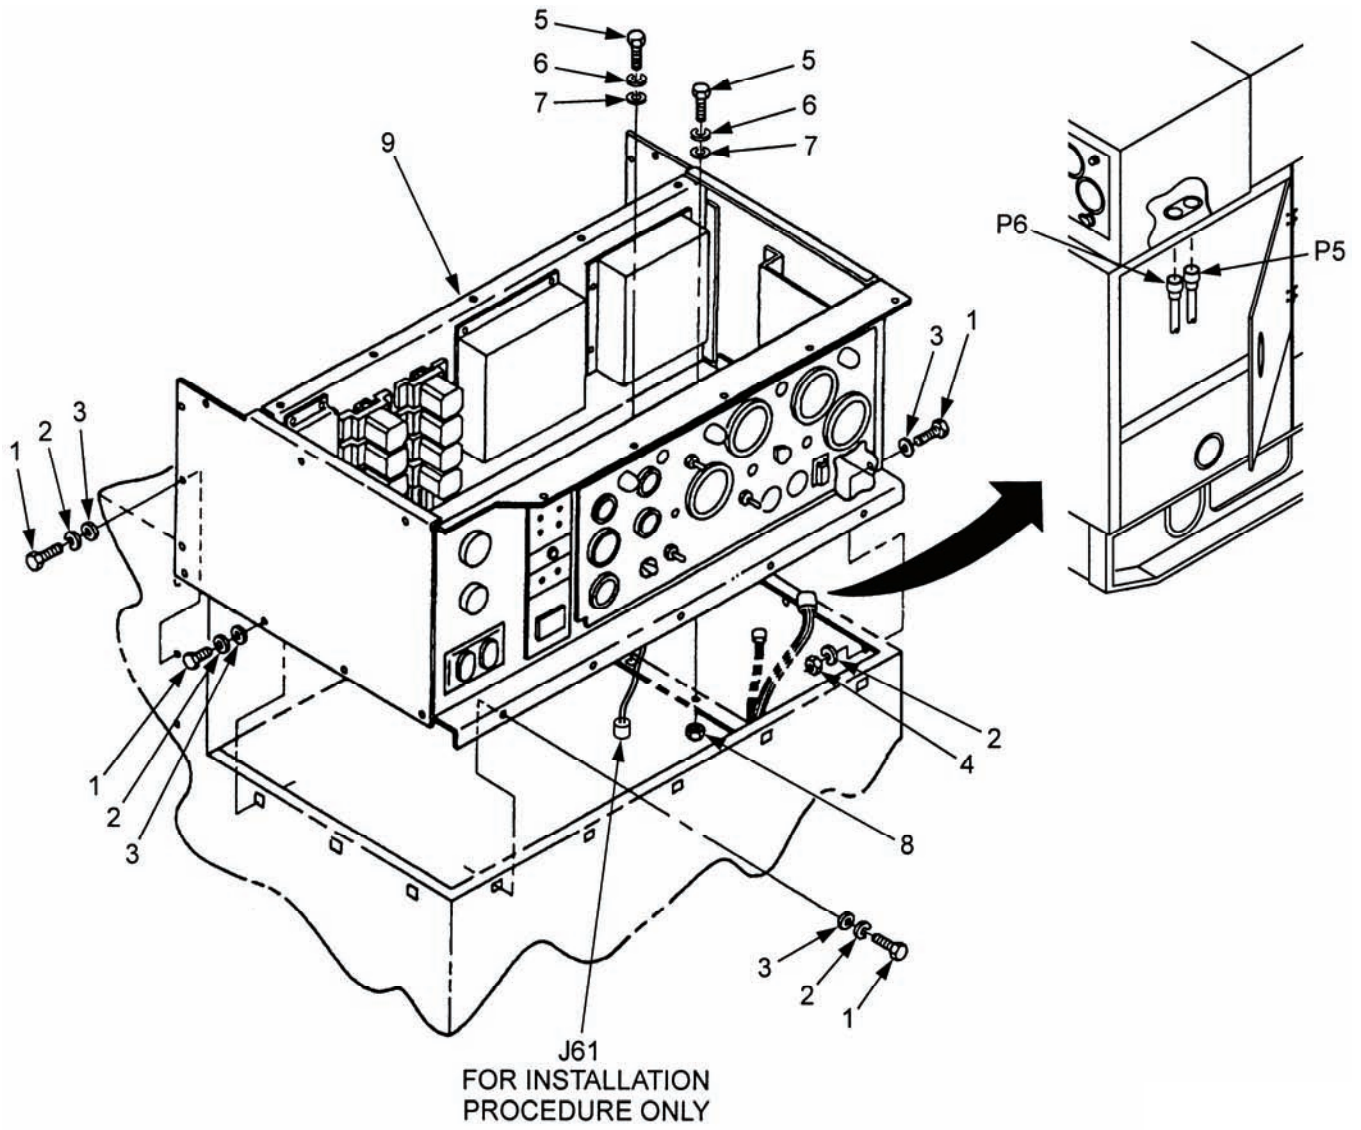

Figure 5-4. Control Box Assembly.
- c. Remove 20 bolts (1, Figure 5-4), lock washers (2), washers (3), and nuts (4). Output box access door hinge will be loose from generator set. Discard lock washers (2).
- d. Remove two bolts (5), lock washers (6), washers (7), nuts (8), and control box assembly (9). Discard lock washers (6).